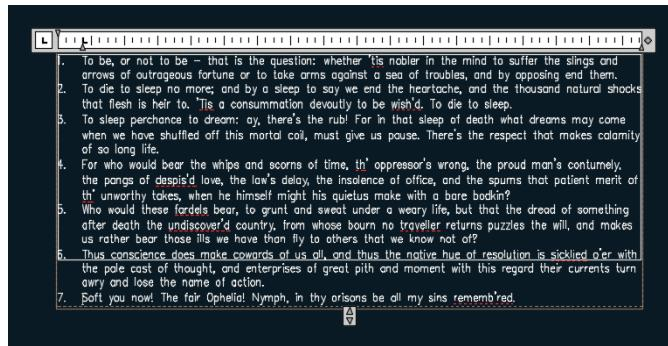

FIGURE 10.10 Turning a block of text into a series of numbered notes
- Drag the cursor from the end to the beginning of the block of text, and highlight all the text. Open the Bullets And Numbering menu in the Paragraph panel, and choose Numbered from the list. The number 1 appears at the start of the text. Click strategic points in the text, and press Enter to separate the paragraph into the numbered notes shown in Figure 10.10. Don't worry if the text extends below the lower edge of the rectangle (it should).